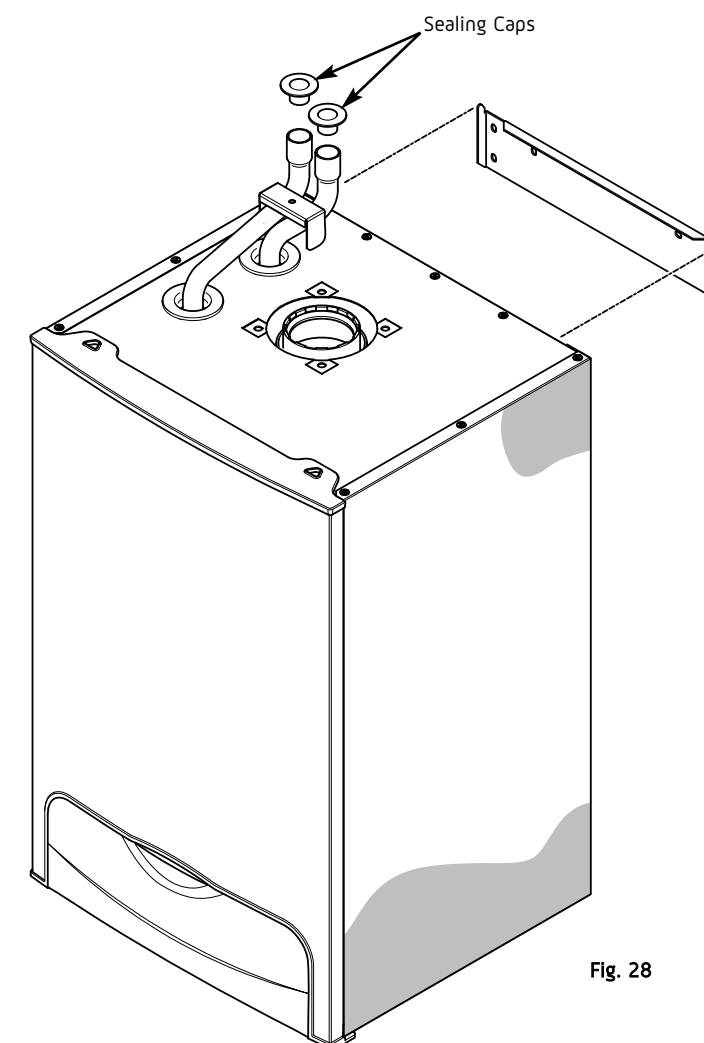

Fig. 28
2. Lift the boiler as indicated by the shaded areas. The boiler should be lifted by TWO PEOPLE. Engage the top of the appliance approximately 100mm above the top of the wall plate and use the side wings on the plate to locate the appliance in a horizontal direction. Then carefully lower the appliance, ensuring that the top locating rail is securely engaged. (Fig. 28) (see **Safe Manual Handling** page 6).